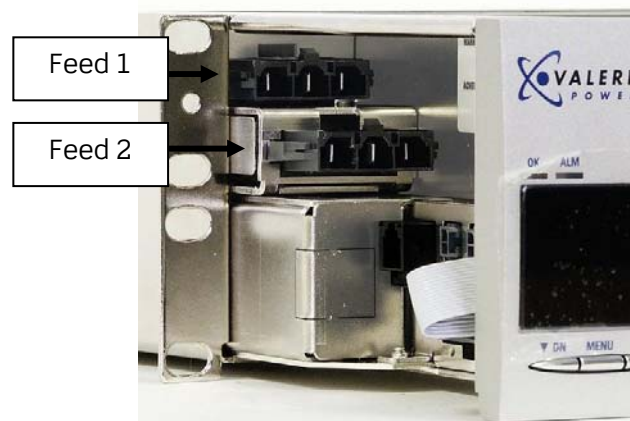

Figure 21 - AC Input Connectors (Dual feed)
2. Connect the line/hot to Line 1, labeled on the AC terminal block (Figure 21).
2. Connect the first line/hot to Line 1, labeled on the AC terminal block (Figure 21).
5. Remove the strap and replace the screws. Refer to Figure 21 for a depiction of how the AC box should appear with the straps removed.